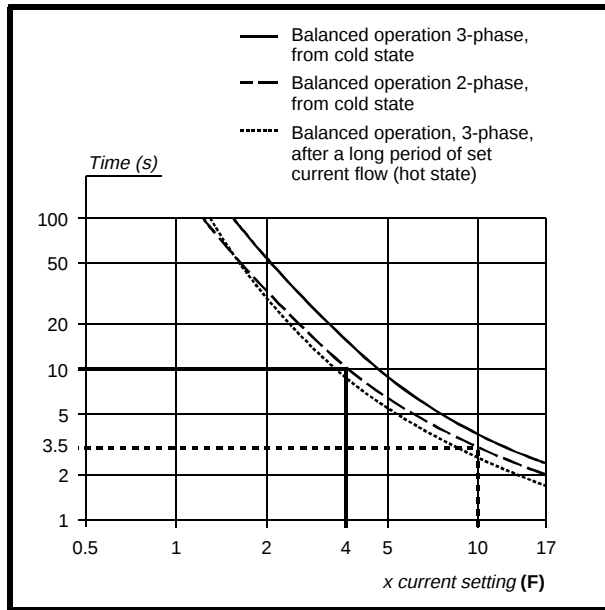

Figure 5-10 Example tripping curves for the Telemecanique thermal overload relays type LR2-Dx3xx
- Use the *tripping curves* for the thermal overload relay in order to find the overload factor (**F**) that will cause the relay to trip after 10 seconds. See Figure 5-10.